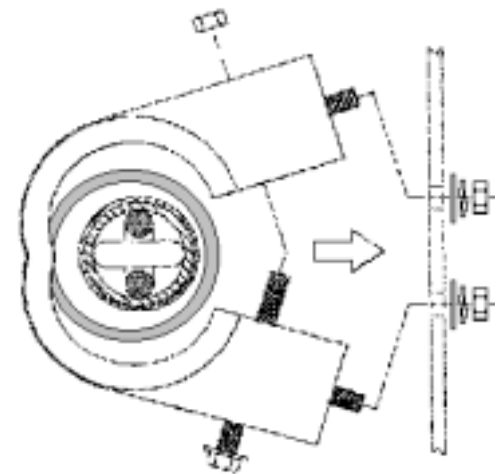

Fig. 2 Installing SwayLess
- Place SwayLess base around brass ring insert. **See Fig. 2.**